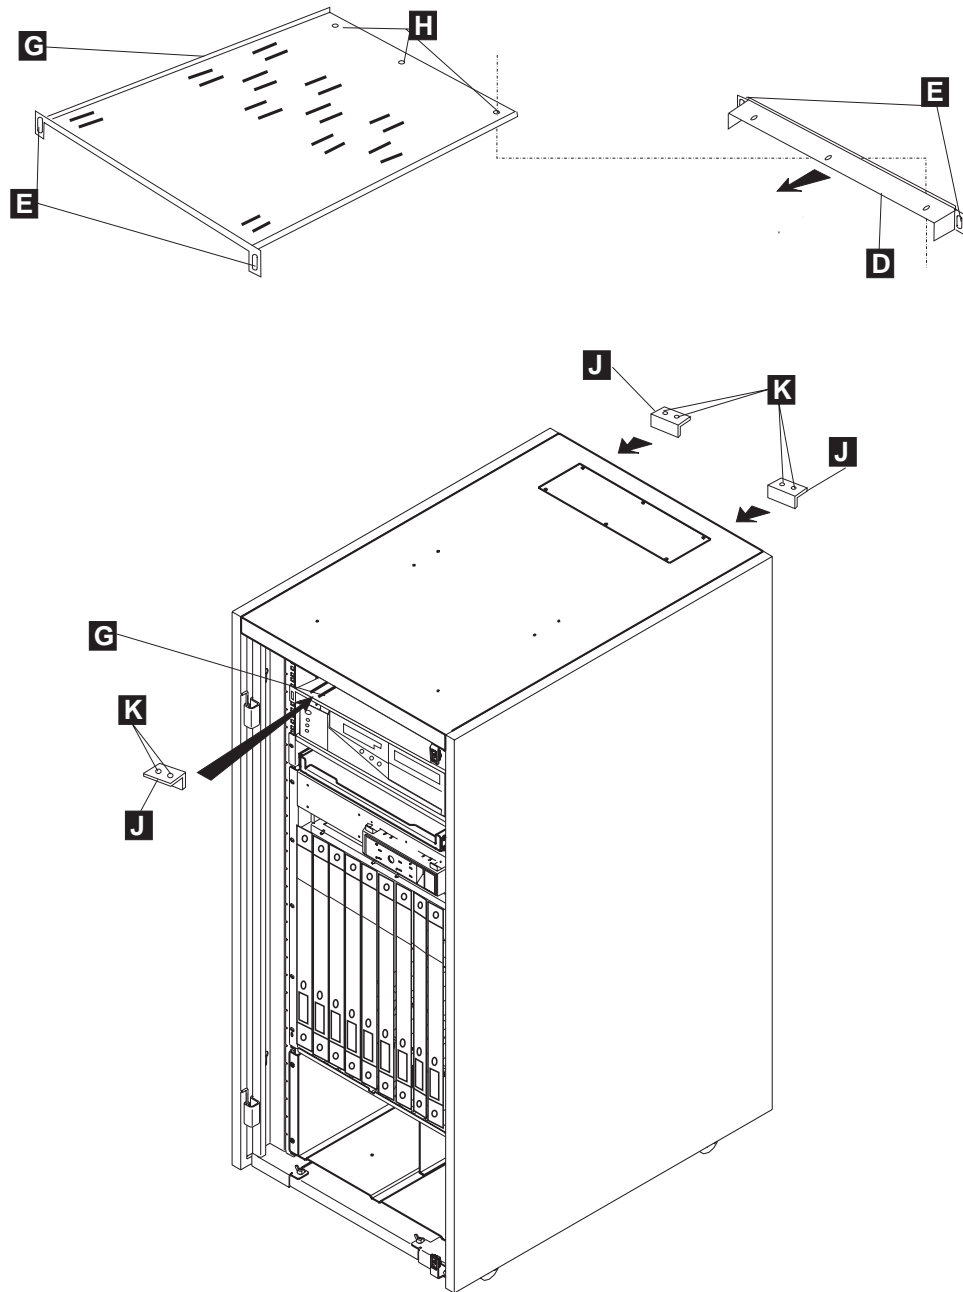

Figure 5-6. Upper Plate Removal in 29U Rack 1)
1. Remove the screws **K** to remove the retainers **J** located under the plate **G** (see Figure 5-6).